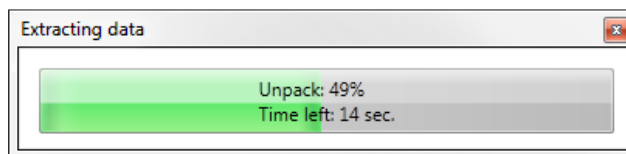
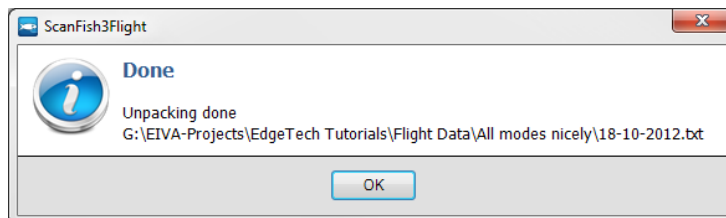

Figure 27 Progress bar
Figure 28 Completion message
- **Unpack Log File:** This menu item will extract the compressed log files (extension .sfl) to an ASCII text file that can be used for error detection. Observe that the ratio between the file sizes is approximately 1:50. During extraction, a progress bar is shown (Figure 27), and when extraction is completed, a completion message will appear (Figure 28).